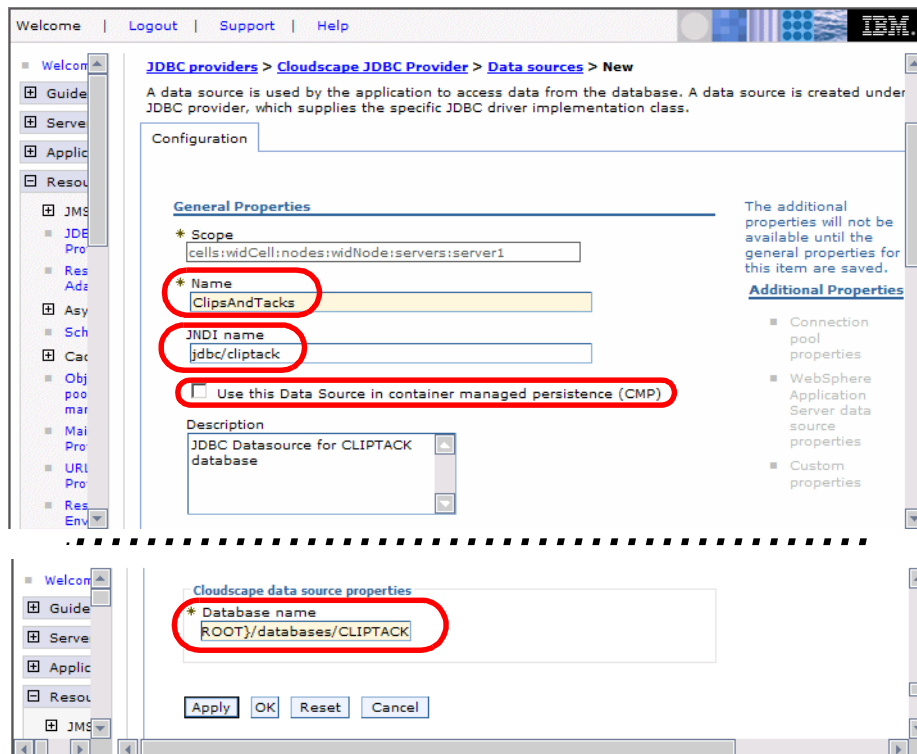

Figure 9-10 Create the data source for the CLIPTACK database
- ▶ Enter these values (Figure 9-10):